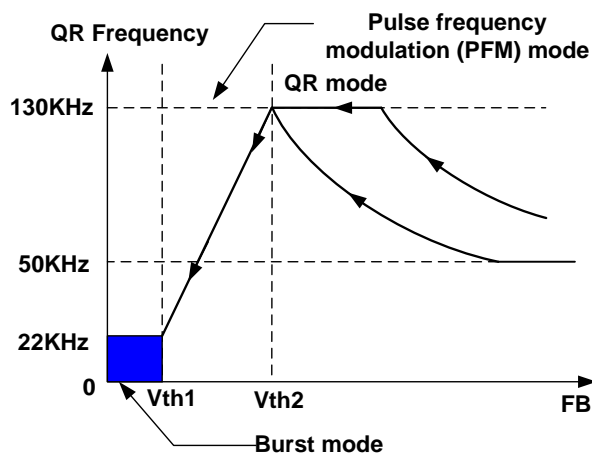

Figure 1
OB6683 integrates a multi-mode QR controller. The QR controller changes the mode of operation according to FB voltage, which reflects the line and load conditions, as shown in Fig.1.
■ Under normal operating conditions ( $FB > V_{th2}$ , Figure 1), the system operates in QR mode. The frequency varies depending on the line voltage and the load conditions. Therefore, the system may actually work in DCM when 130KHz frequency clamping is reached. System design should be optimized such that the operation frequency is within the range specified at full loading conditions and in universal AC line input range.
■ At light load condition ( $V_{th1} < V_{FB} < V_{th2}$ , Figure 1), the system operates in PFM (pulse frequency modulation) mode for high power conversion efficiency. In PFM mode, the “ON” time in a switching cycle is fixed and the system modulates the frequency according to the load conditions. Generally, in flyback converter, the decreasing of loading results in voltage level decreasing at FB pin. The controller monitors the voltage level at FB and control the switching frequency. However, the valley switching characteristic is still preserved in PFM mode. That is, when loading decreases, the system automatically skip more and more valleys and the switching frequency is thus reduced. In such way, a smooth frequency foldback is realized and high power conversion efficiency is achieved.